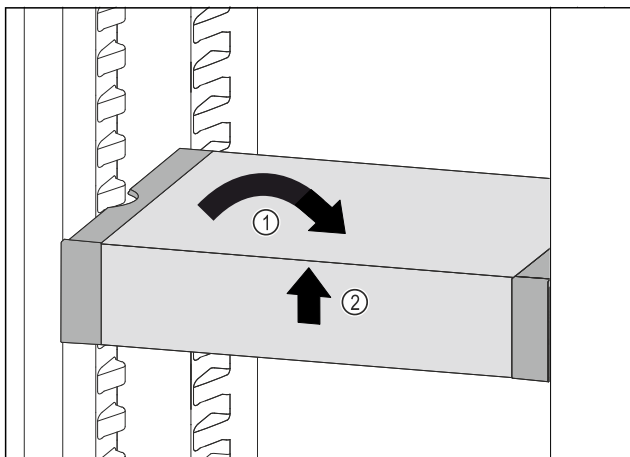

Fig. 191
- Set VarioSafe straight. Fig. 191 (1)
- Lift VarioSafe at the front. Fig. 191 (2)